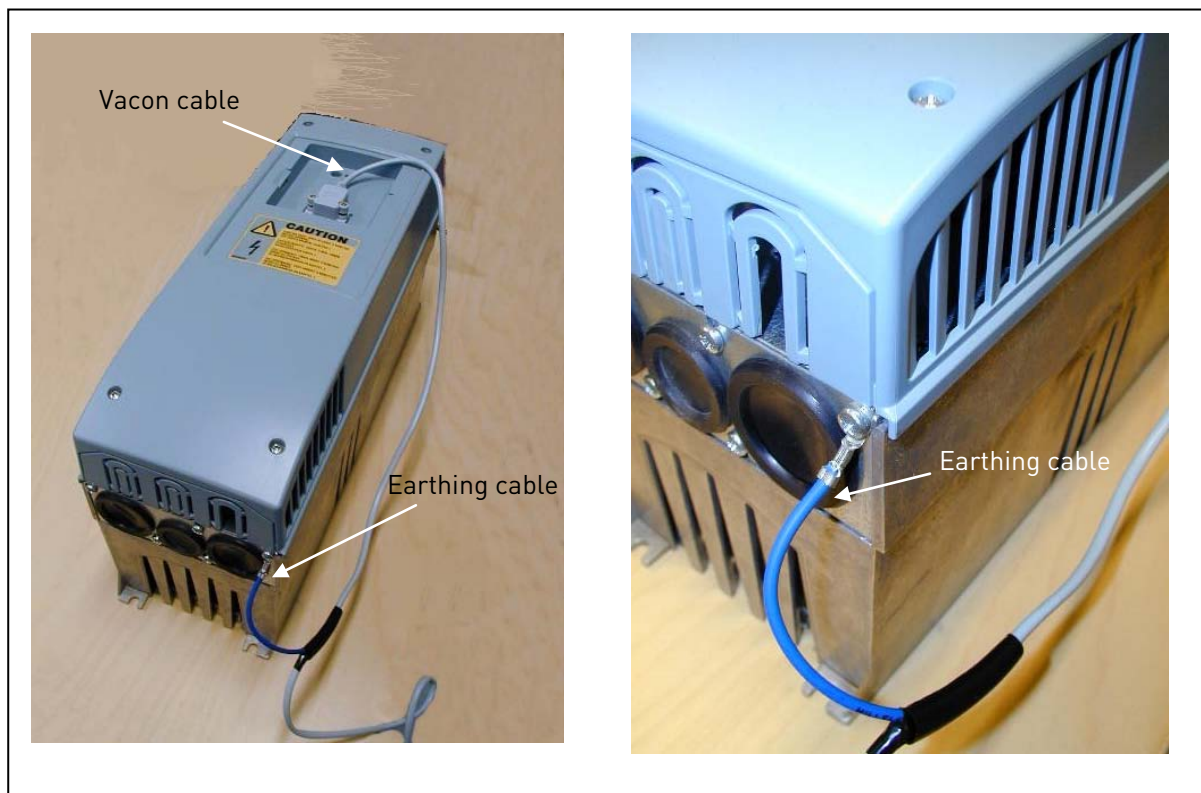

Figure 2. Connection of Vacon cable and the earthing cable, FR4 – FR7
3. Place the control keypad (1) in the opening so that the screw holes you made in the cabinet door meet the bushings on the backside of the control keypad.
4. Fix the control keypad on the cabinet door by tightening the screws (2). Don't forget to place the washers (3) between the door and the screws. The tightening torque is 1.5 Nm.
5. Connect the Vacon cable (4) to the terminal of the control keypad, see Figures 2 and 3 below